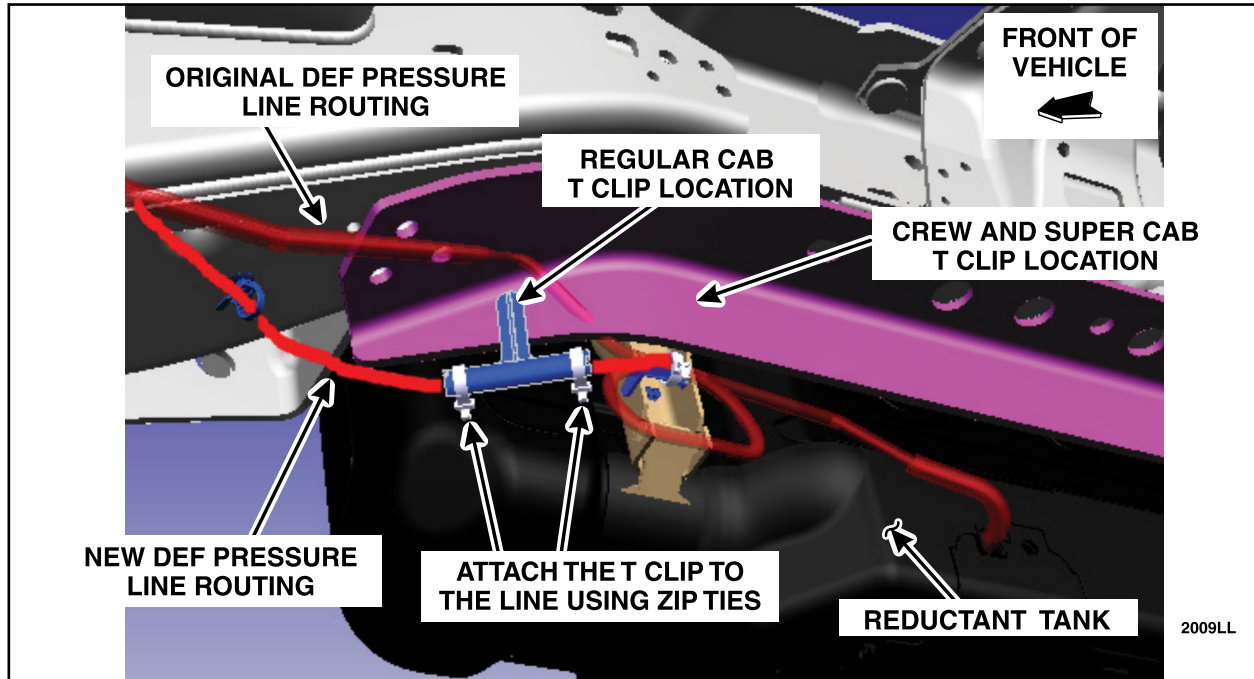

FIGURE 32
2. Once the RH side lower bracket has been installed, install the supplied T clip to the lower bracket and route the DEF pressure line toward the T clip and attach the T clip to the DEF pressure line with two (2) of the supplied zip ties as shown in Figure 32.
NOTE: Figure 32 shows the different T clip locations for between the regular cab vehicles and Crew and Super Cab vehicles. Holes are pre drilled on bracket for T clip, will need to drill new hole for routing clip.